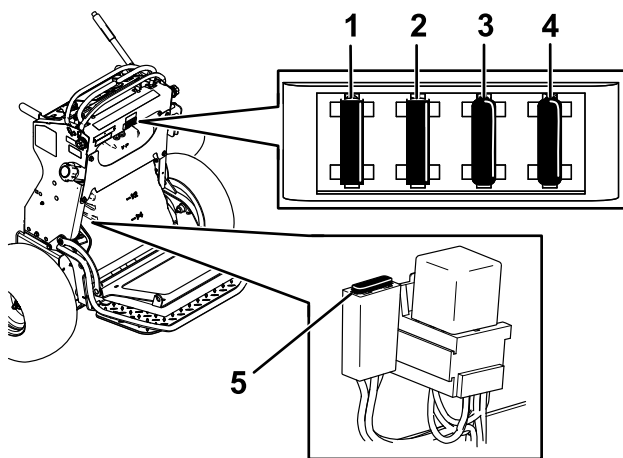

Figure 57
5. Pull out the fuse and replace it (Figure 57).